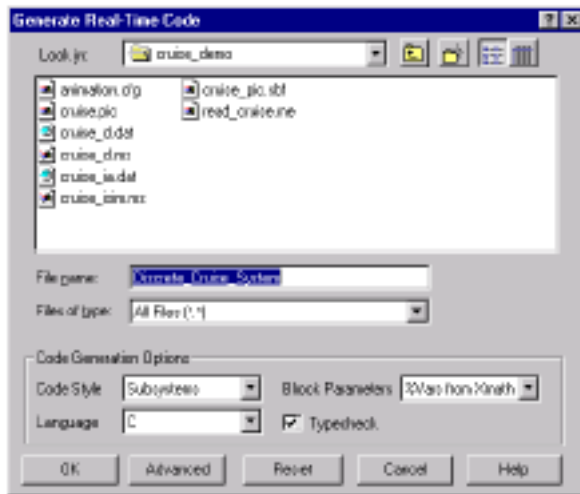

Figure 5-1. Generate Real-Time Code Dialog
- From the Catalog Browser, select **Tools»AutoCode** to bring up the Generate Real-Time Code dialog (see Figure 5-1).